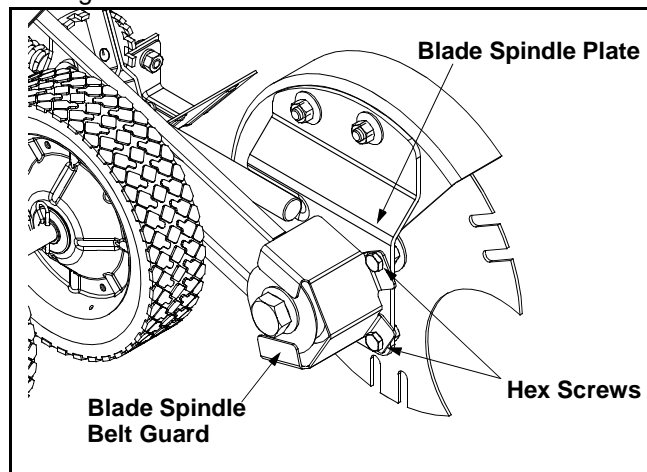

Figure 17
- Remove the blade spindle belt guard by removing the hex screws, two lock washers and two hex nuts which secure it to the blade spindle plate. See Figure 17.